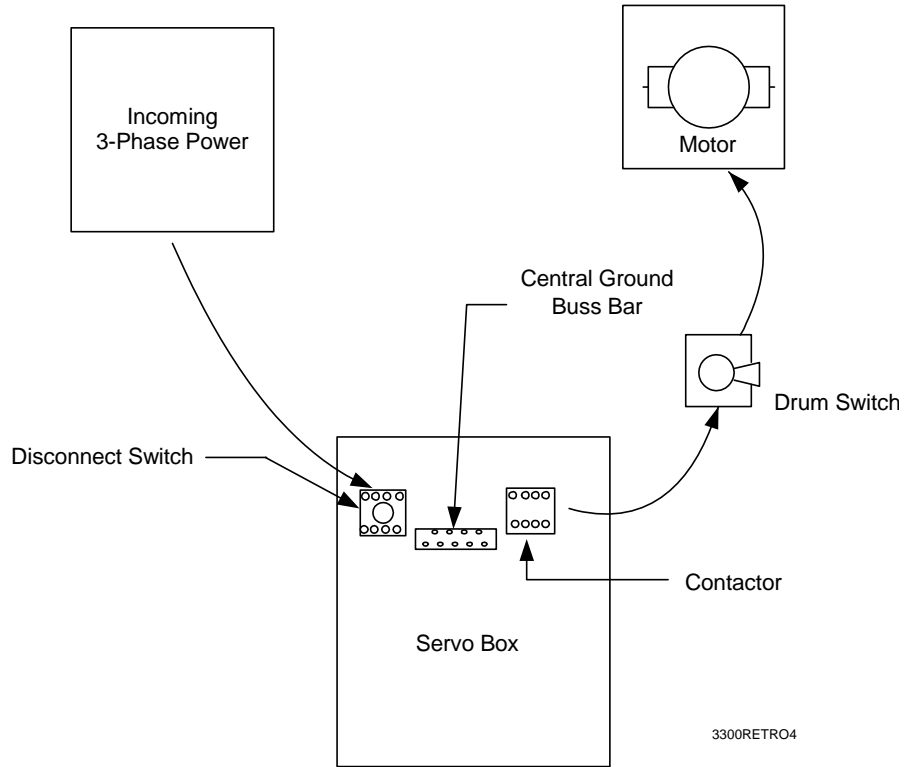
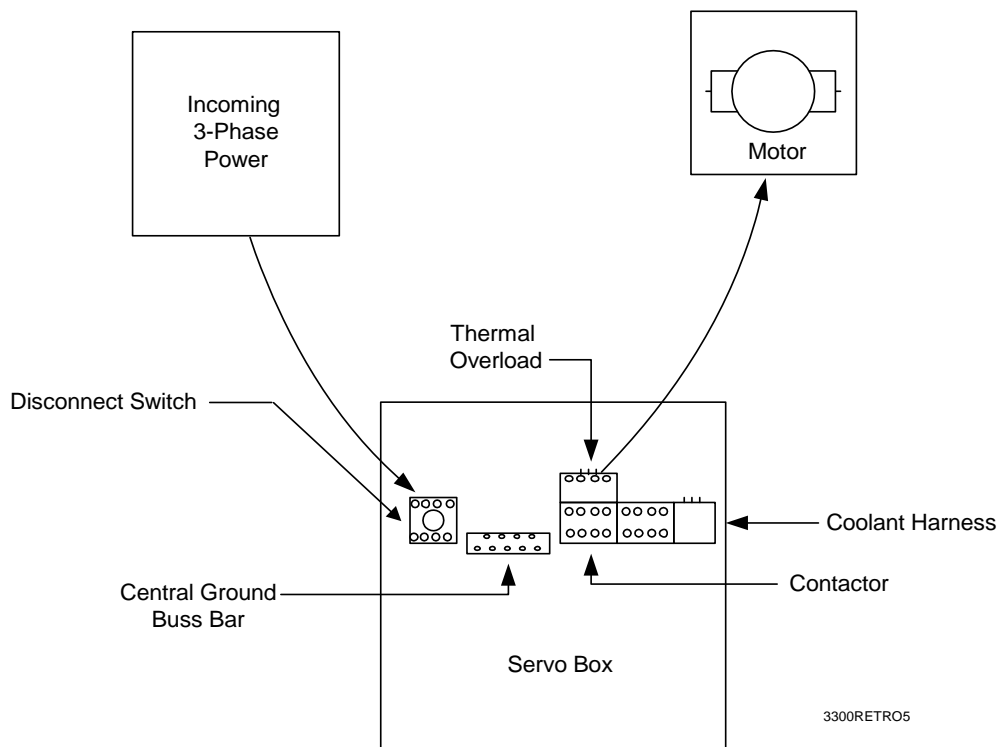

Figure 3-45, Spindle Motor Configuration Without M-Function
Figure 3-46, Spindle Motor Configuration With M-Function
- Wire the incoming three-phase power to the top side of the disconnect switch as shown in **Figure 3-45, Spindle Motor Configuration Without M-Function** and **Figure 3-46, Spindle Motor Configuration With M-Function**.
Refer to **Figure 3-45, Spindle Motor Configuration Without M-Function** and **Figure 3-46, Spindle Motor Configuration With M-Function**. Route incoming 3-phase power wires to the disconnect switch and tighten them securely. The ground conductor of the three-phase cable should be terminated with a ring lug and attached to the Servo Enclosure Central Ground Buss Bar.